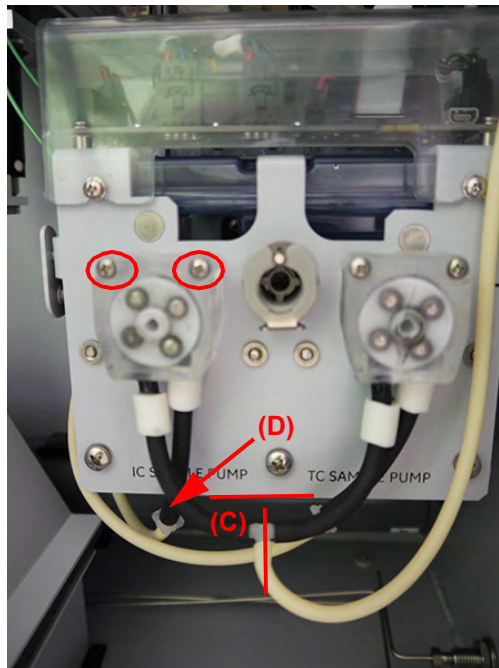

Figure 55: Sample Pump Heads and Tubing — IC Side
12. Now replace the IC pump head. Disconnect the right *inlet* tubing coming out of the pump head from the fitting at the end of the IC waste tubing **(C)**, Figure 55.
13. Disconnect the left *outlet* tubing coming out of the pump heads from the T-connector **(D)**, Figure 55.
18. Connect the left tubing end to the T-fitting (C), Figure 55.
19. Connect the right tubing end to the IC waste tubing (D) Figure 55.